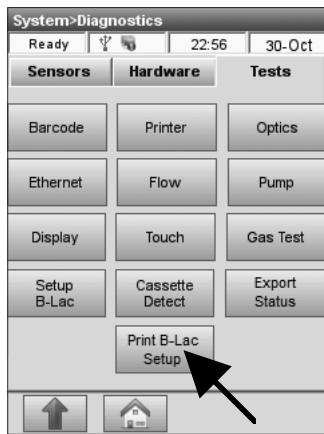

Fig. 8-52 B-Lac Setup Report
- Press **<Print B-Lac Setup>** to start the printout (Fig. 8-52).